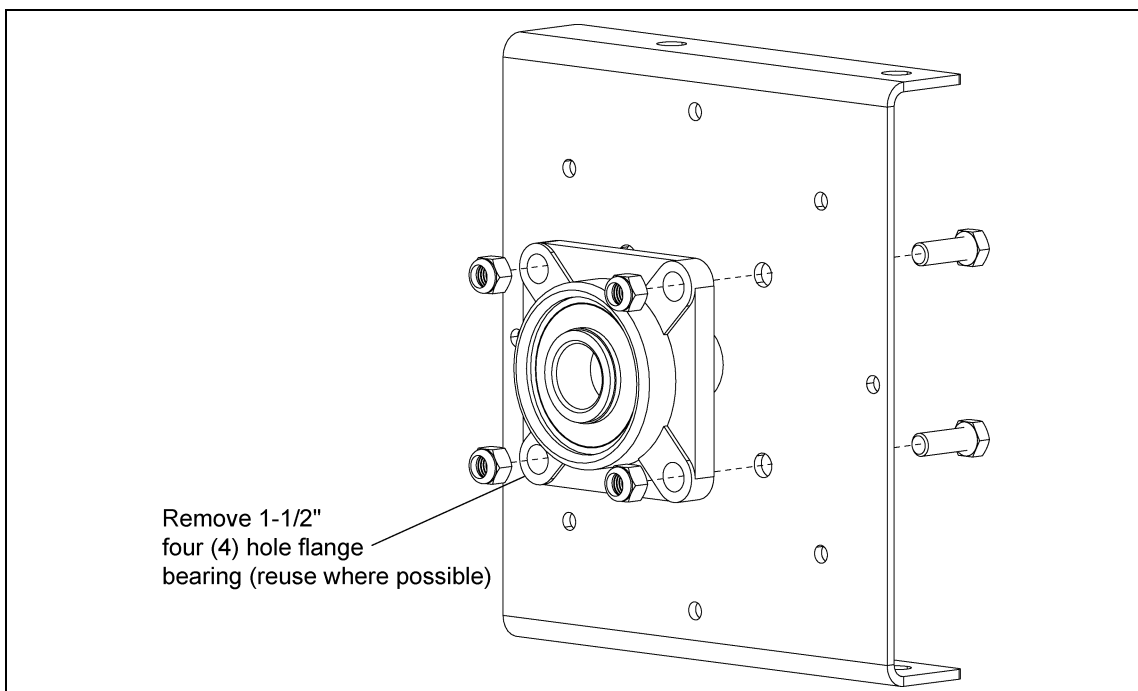

Figure 4E
- Unbolt and remove the 1-1/2" four (4) hole flange bearing. Where possible, this bearing will be reused with the new horizontal drive parts. (See Figure 4E.)